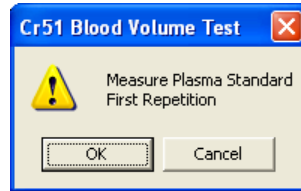

Figure 10-61
- Next the screen appears as in Figure 10-61, prompting you to measure the plasma standard.